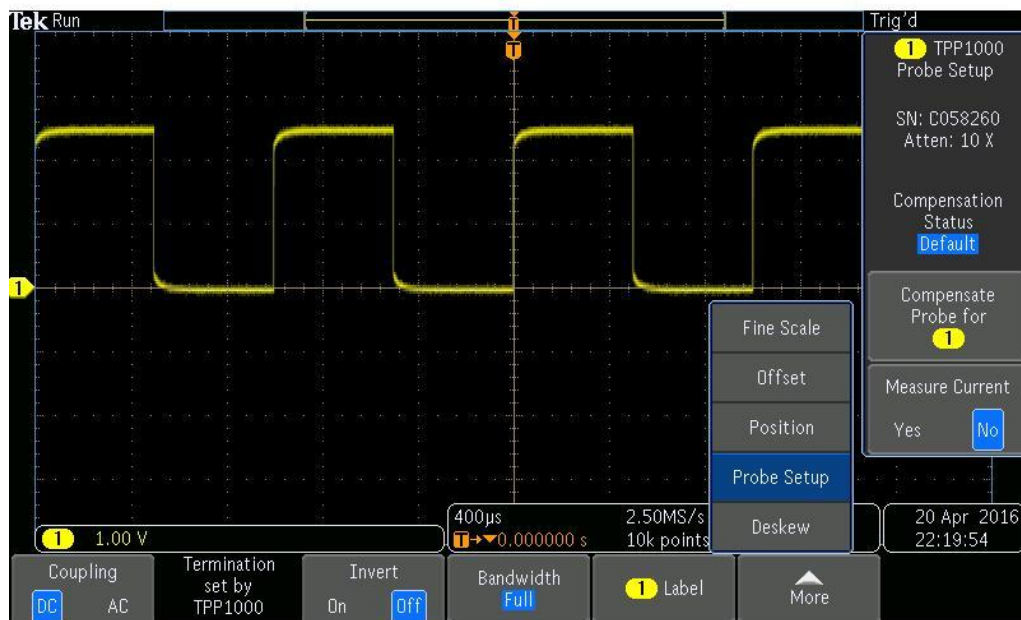

Figure 5: Calibrating a Probe for channel 1. Compensation status reads default; hence the probe is not calibrated.
6. Press *Compensate Probe* for the channel you are calibrating. (See figure 5)